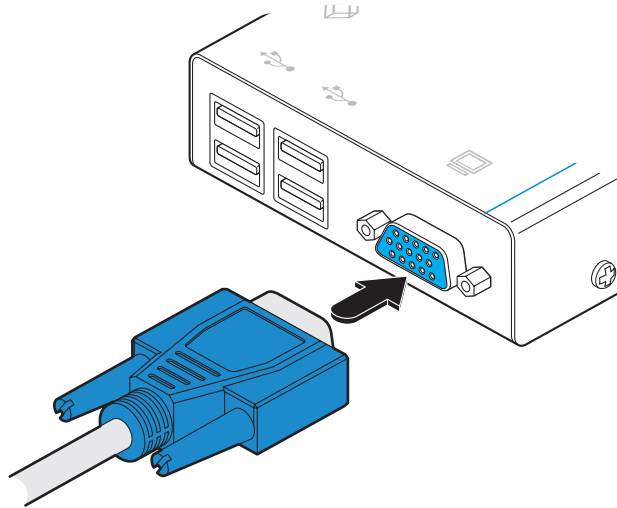

Figure 3-14. Attaching the VGA video display cable
- 2 Attach the lead from the video display to the video out socket on the remote module as shown in Figure 3-14: